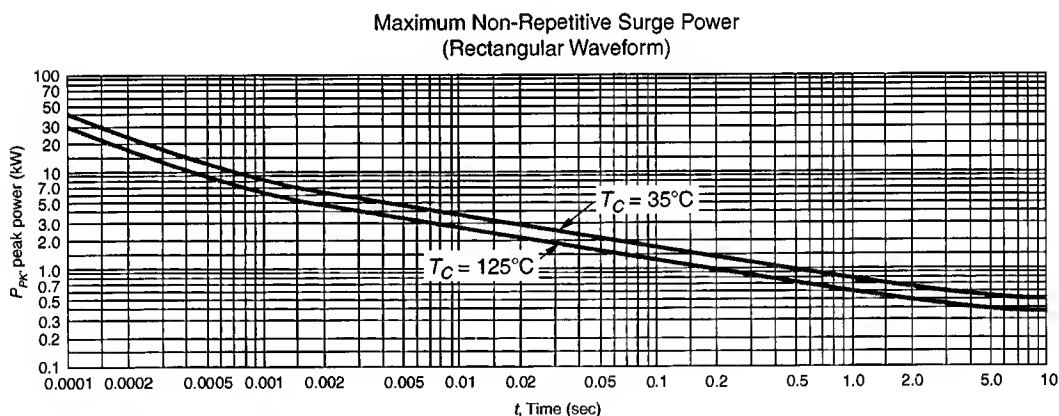

FIGURE 5.27 MPZ-16 peak power curves.
5. Figure 5.27 shows the surge power curves for the Motorola MPZ-16 series transient suppressors. How much power can these diodes handle if the surge duration is 8 ms and $T_C = 35^\circ\text{C}$?
6. Refer to Figure 5.27. Determine the maximum power dissipation for the MPZ-16 series diodes when the surge duration is 15 ms and $T_C = 35^\circ\text{C}$.